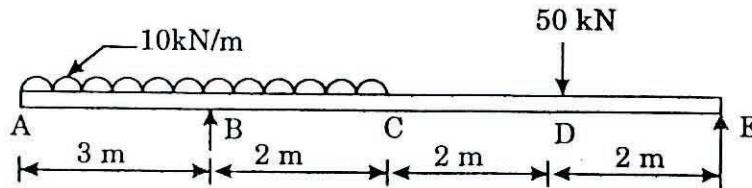

Figure 2
- IV. (a) Draw SFD and BMD for the beam shown in figure 2. Indicate the position and the magnitude of maximum bending moment.